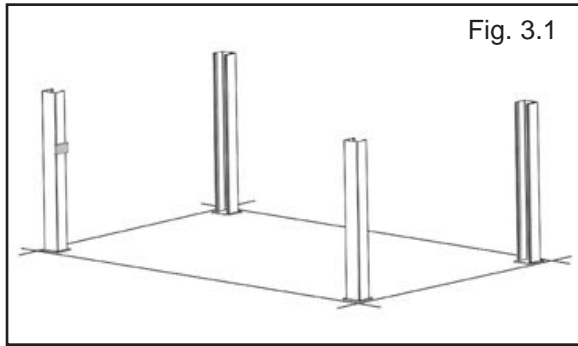

Fig. 3.1
1. Place a chalk line on the floor according to the floor plan layout. Pay attention to the Power Unit location. Locate and stand the Columns at their respective locations. **DO NOT BOLT** Columns down at this time. Use caution to prevent the Columns from falling over. (See Fig. 3.1)